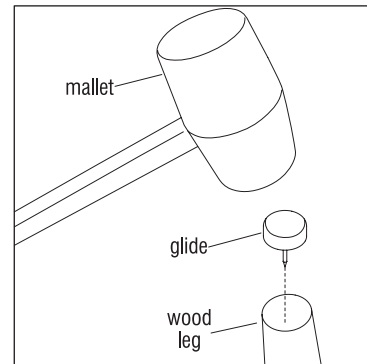

Figure 2 - Nail-In Glide
3. Once glide is removed, thread in the new replacement glide in to the threaded hole clockwise until it is tight (Figure 2).